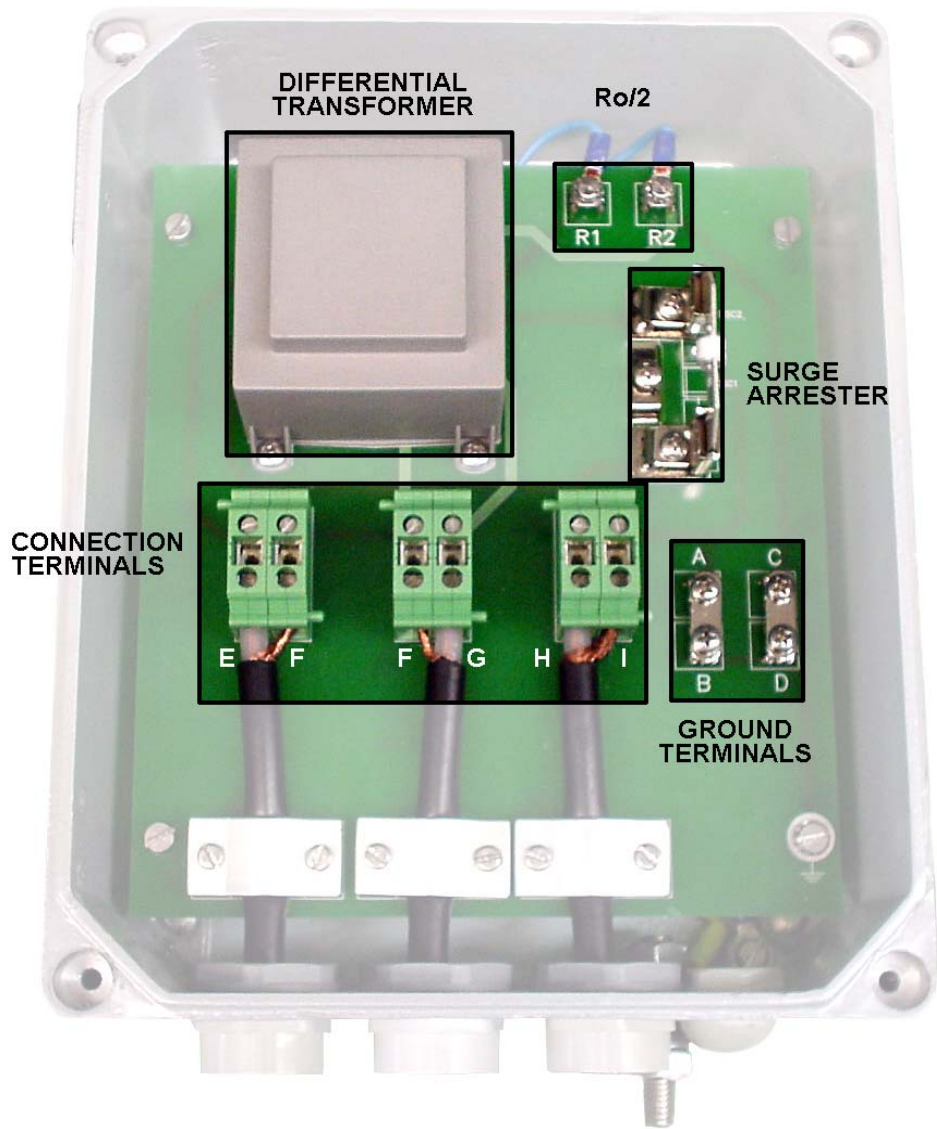
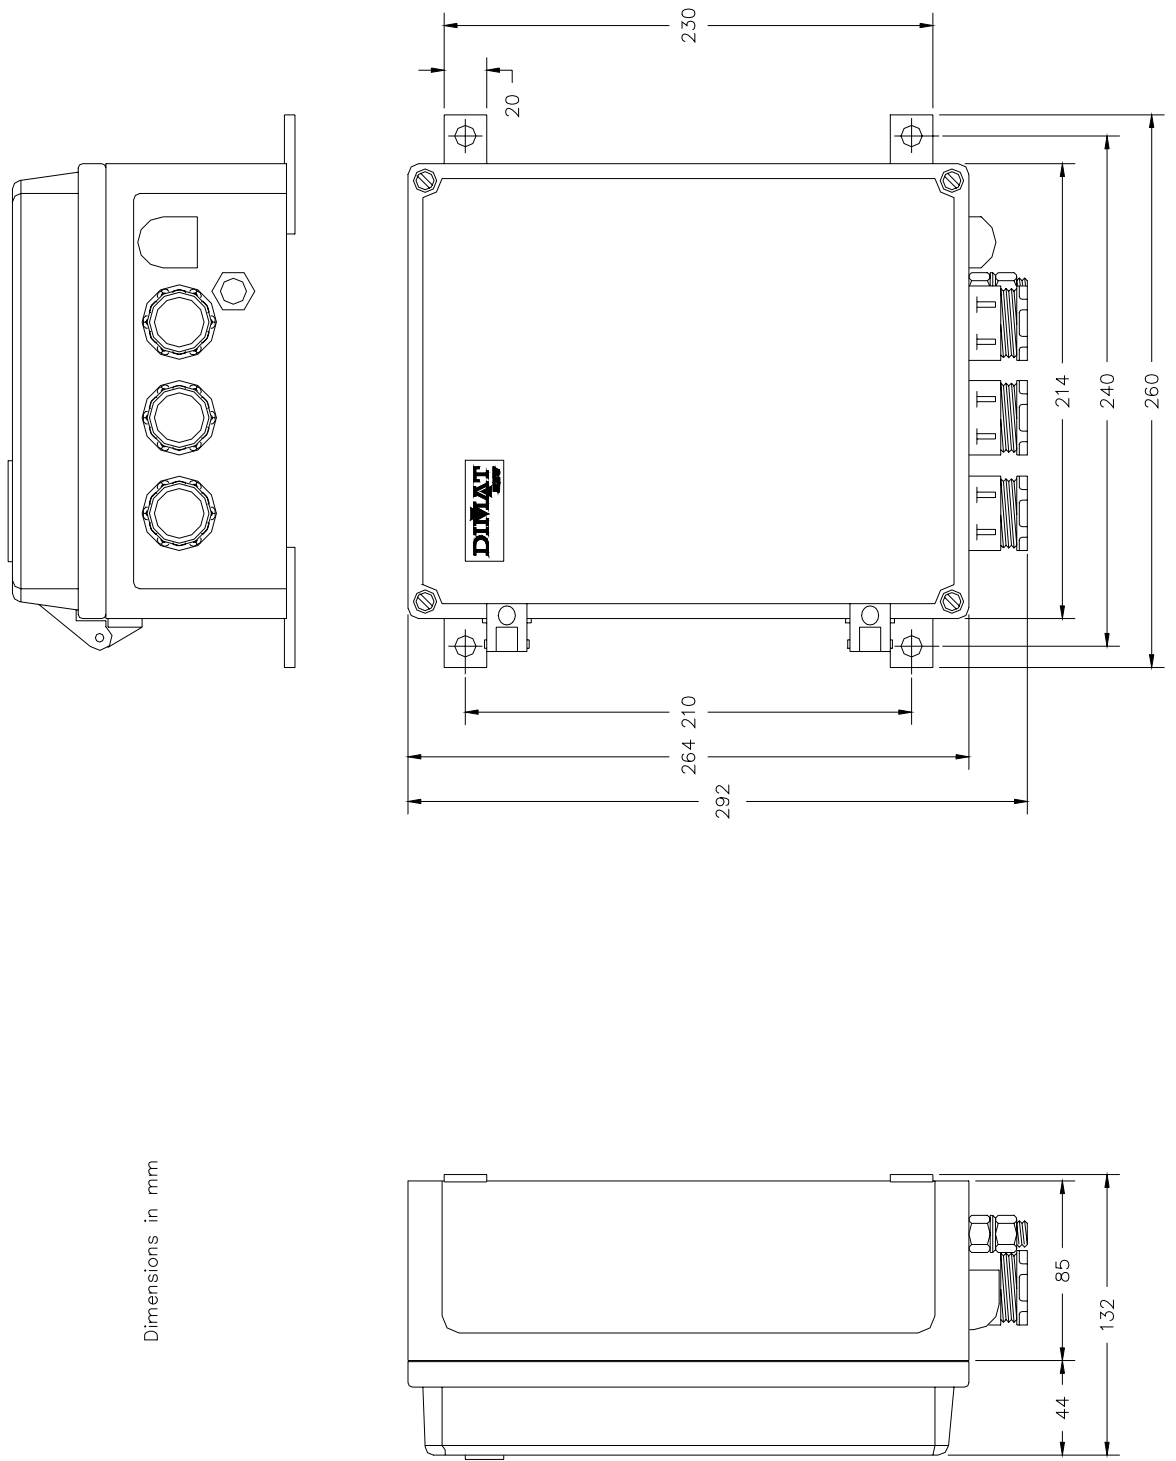

FIGURE 7 Internal front view of the CHD-4 unit
FIGURE 8 Overall dimensions of the CHD-4 unit
As can be seen in chapter 2, *PRINCIPLE OF OPERATION*, the CHD-4 unit can be used for phase-to-phase coupling, for three-phase coupling and for the parallel coupling of two PLC terminals, in outdoor mounting. The internal front view of the CHD-4 unit can be seen in FIGURE 7. The overall dimensions of the CHD-4 unit are shown in FIGURE 8.
The A-B strap of the CHD-4 allows to connect the shield of the coaxial connected to the primary winding to the ground terminal. The C-D strap allows to perform the same operation with the shield of the wires connected to the secondary. The physical position of these straps is shown in FIGURE 7.
In the three-phase couplings, the shields of the coaxial cables which link the coupling units to the differential transformer may be connected to the ground terminal by setting the C-D straps of the CHD-4 (1) and CHD-4 (2). If the shield of the coaxial coming from the PLC terminal is not grounded at equipment-side, it may be connected to the ground terminal at the coupling-group side by means of the A-B strap of the CHD-4 (1). The physical position of the straps can be seen in FIGURE 7.